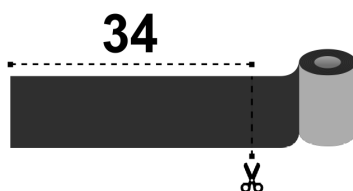
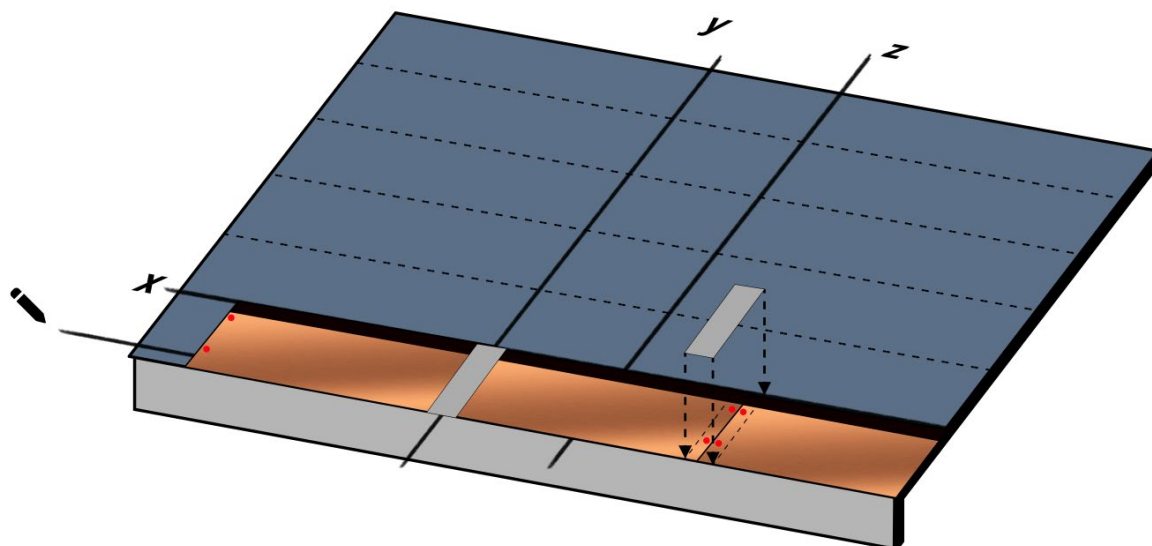
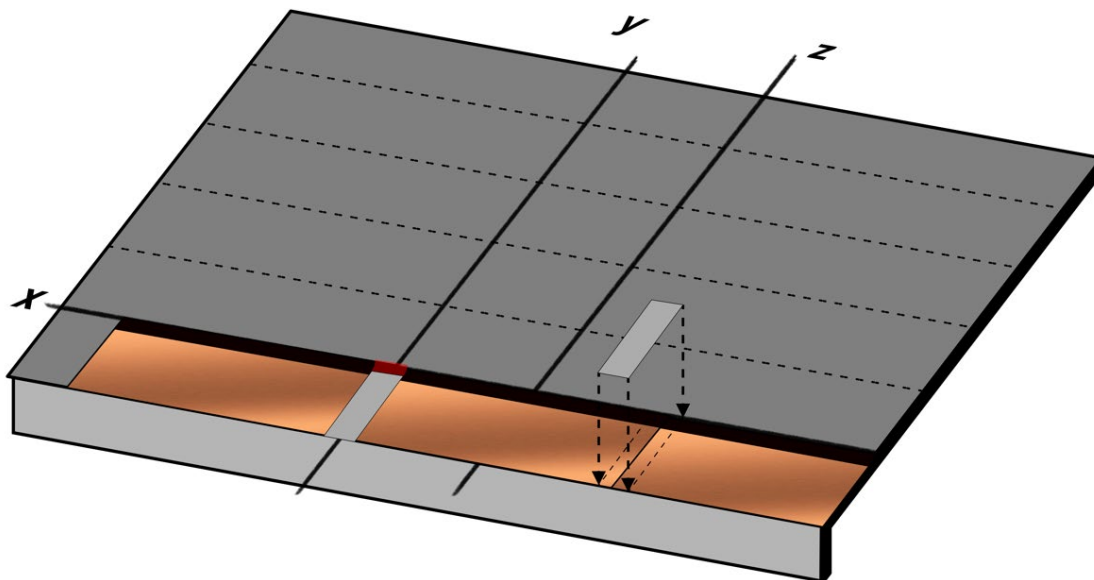
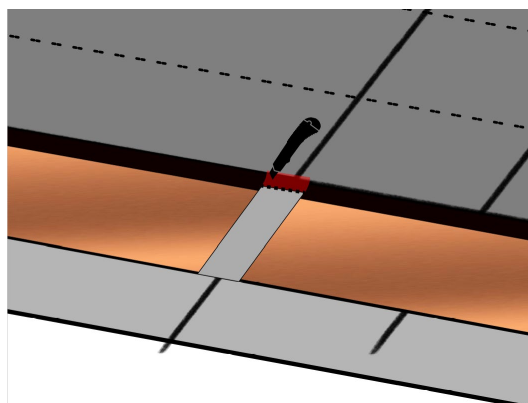

Fig. 7 - Compact Strip
Fig. 8 - Compact Strip installation
Fig. 19 - Compact Strip installation
Fig. 20 - Cutting the upper part of the Compact Strip protective film
- From the roll of Compact Strip sealant, cut pieces 34 cm long - Fig. 7. Position the prepared piece of Compact Strip at the centre of the joint between two consecutive shingles (Fig. 8), applying pressure to ensure perfect adhesion to the substrate. Do not remove the top non-stick film from the Compact Strip.
- From the Compact Strip roll, cut pieces of 34 cm in length – Fig. 7. Position the prepared piece of Compact Strip at the centre of the joint between two consecutive shingles (Fig. 19), applying sufficient pressure to ensure perfect adhesion to the substrate. Do not remove the top anti-adhesive film from the Compact Strip but only cut off the upper part indicated in red in Fig. 20, exposing a portion of the butyl tape.